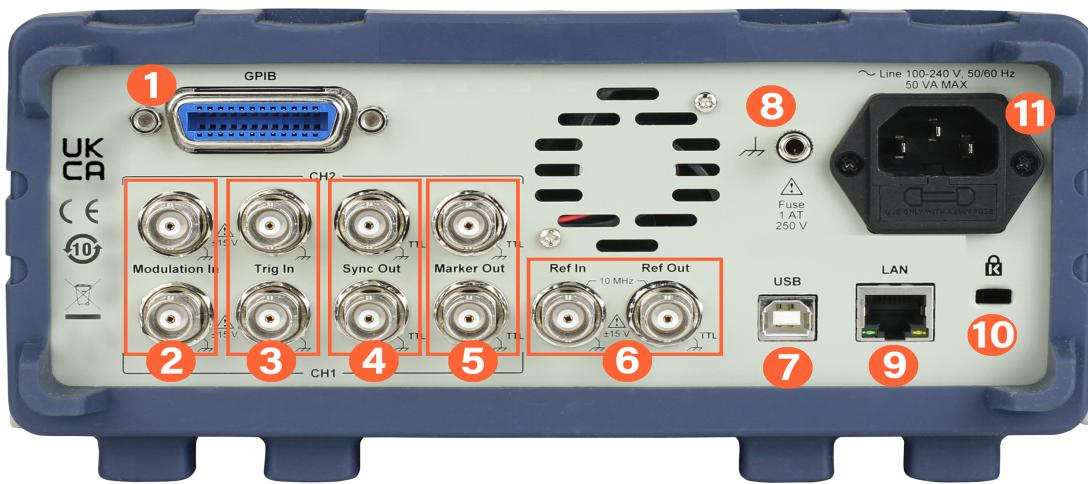

Figure 1.4 Rear Panel
Step 1. Locate the fuse box in the rear panel beneath the IEC 320 connector. (See **figure 1.4**)